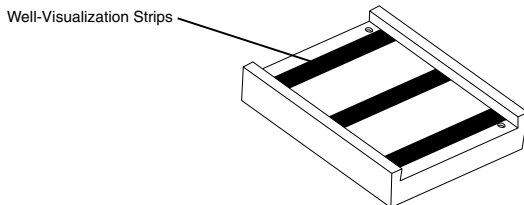

Figure 4. Gel Deck.
- **Gel Deck** (figure 4). The gel deck provides for a 5.7 x 8.3 cm gel bed and is designed to withstand the high temperatures of molten agarose without warping. Hence, gels may be cast immediately after boiling the agarose solution. The red well visualization strips on the bottom of the gel deck are positioned under the comb to permit easy viewing of the wells when loading the gel. The acrylic used in the gel deck is **not** UV transparent. Gels should be removed from the gel deck for photography.